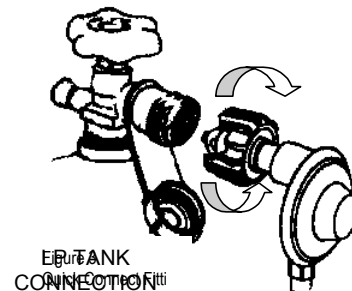

FIGURE 4
- 3- Turn the fitting clock-wise until snug. DO NOT OVER TIGHTEN! (SEE FIGURE 4)